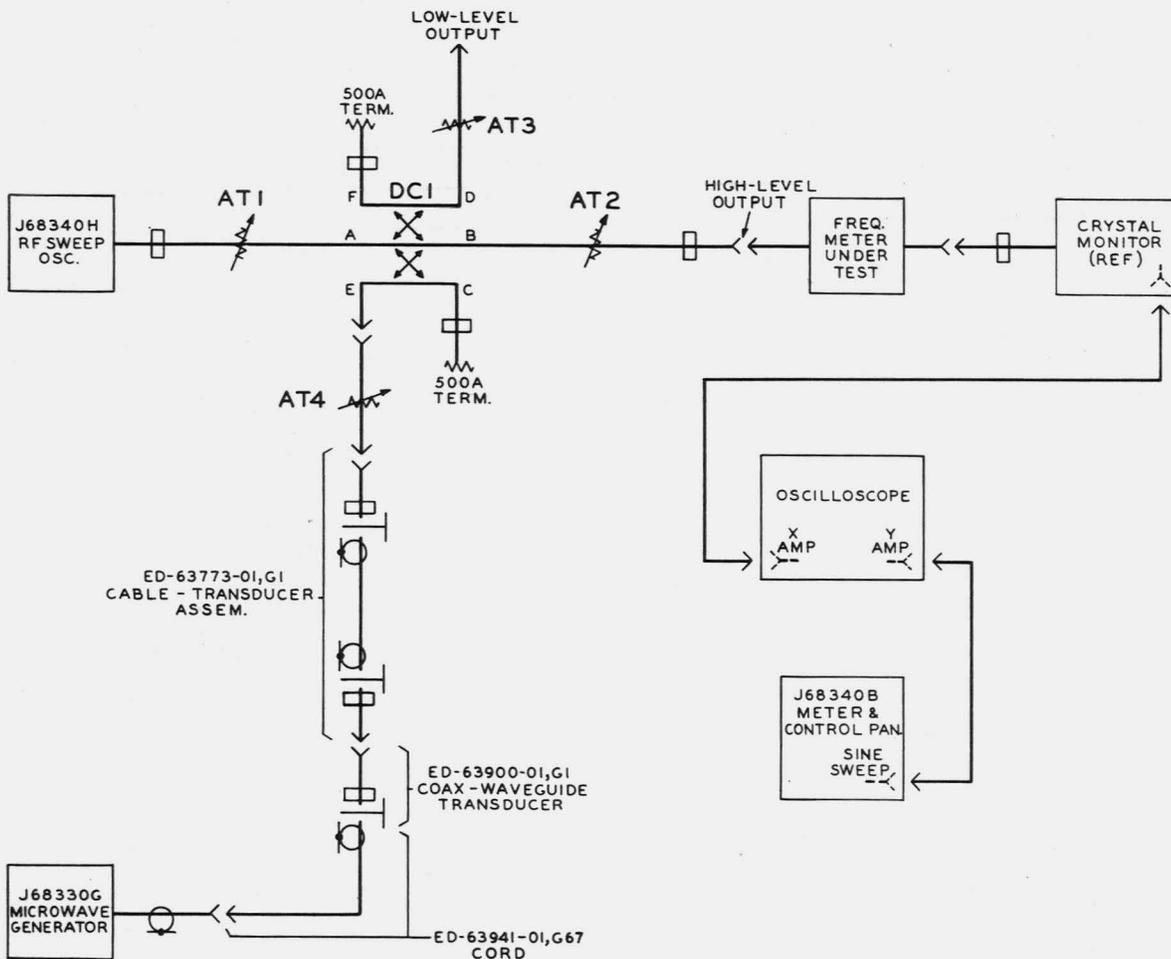

Fig. 18 - Circuit to Check Calibration of RF Frequency Meter
(1) Set up the circuit of Fig. 18. AT1 should be 10 db; AT2, 20 db; and AT3, 20 db. Set up the microwave generator in the test bench to the frequency at which a calibration point is required, and adjust the RF sweep oscillator to sweep approximately ± 20 MC about this point. The frequency meter under test or a separate one may be used to adjust the sweep oscillator by observing the pip produced on the oscilloscope. If this adjustment is correct a small beat-frequency pattern